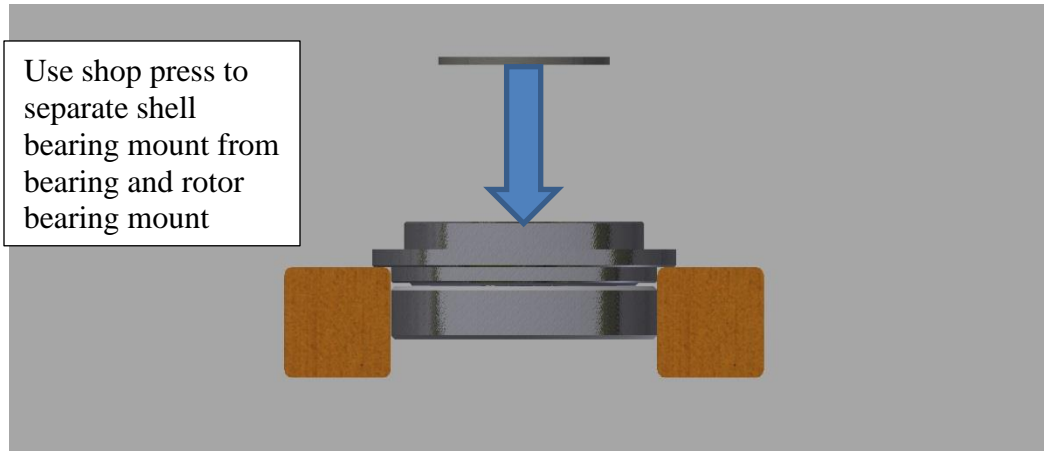

Figure 26
5. Place spacers under the flange portion of the shell bearing mount on the opposite side from where the plate was inserted. This will support the shell bearing mount while the bearing and rotor bearing mount are pressed apart from the shell bearing mount. See **Figure 26**.